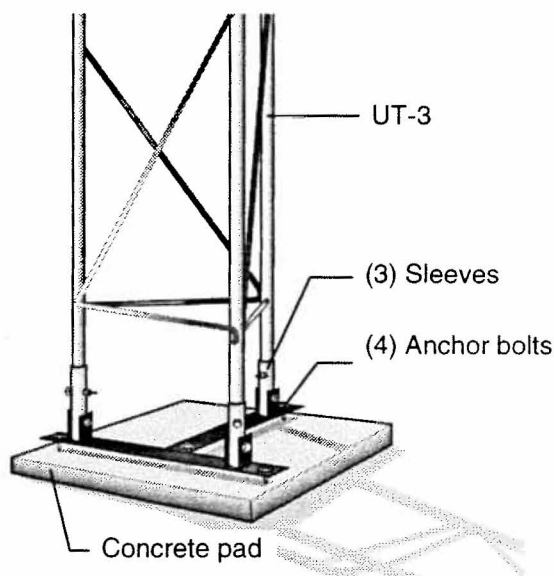

FIGURE 3-2 UT3 Tower and Concrete Foundation
The UT3 tower attaches to a user supplied concrete foundation as shown in Figure 3-2. The tilt base, anchor bolts, and nuts are included with the tower.
2. Remove the three upper bolts on the aluminum sleeves attached to the base. Loosen the nuts on the three lower bolts and position the sleeves vertically (Figure 3-2).